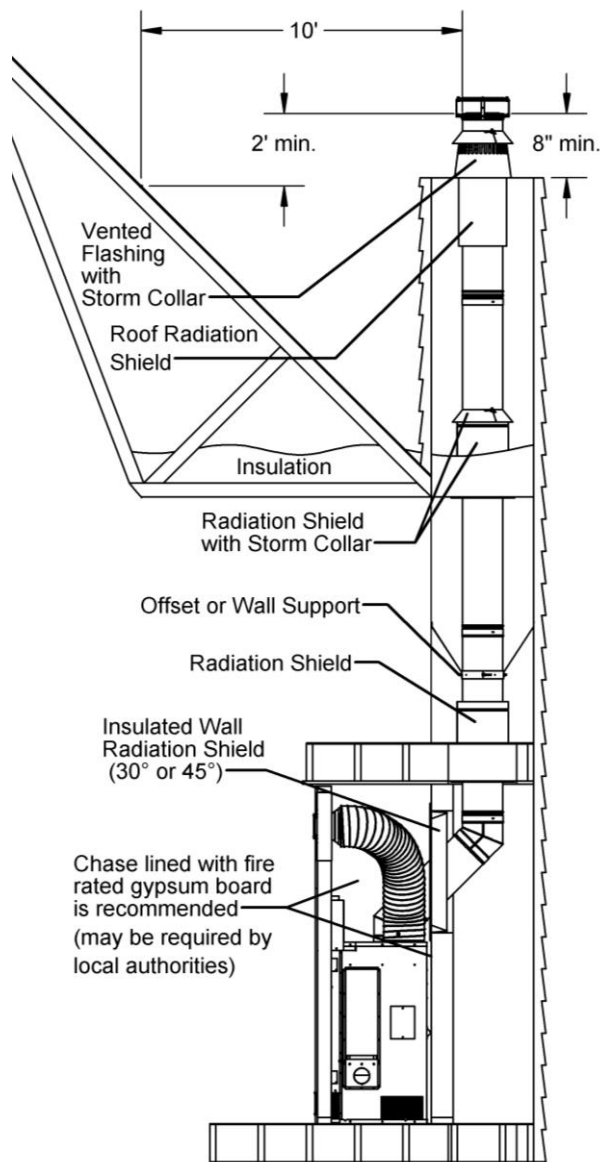

FIGURE 22 EXTERIOR CHASE AND THROUGH THE WALL
If necessary, the chimney can go through a wall at an angle as depicted in Figure 22. An Insulated Angled Wall Radiation Shield (XM-8EWRSI30 or XM-8EWRSI45) MUST be used wherever the chimney passes through a wall to protect the combustible wall structure from the heat of the chimney.
If the chimney runs up the outside of the house, we recommend that it be enclosed in a chase. The chase should be constructed in such a way that it is an extension of the home (see Figure 22). It should be well insulated between the footings and the floor of the home to prevent heat loss.
2. At each floor where the chimney passes through, you must install a radiation shield. At the attic level, install a radiation shield and a storm collar as shown in Figure 7 and Figure 22.